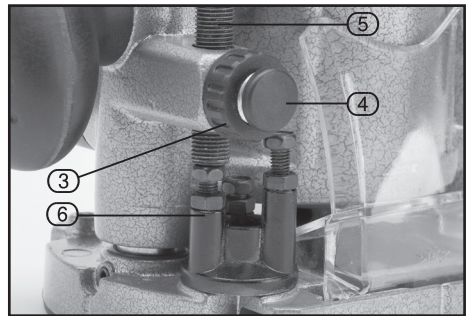

FIG.3
Turn the stopper pole setting nut (3) counterclockwise. Lower the depth stop (5) until it makes contact with the adjusting turret bolt (6). Align the depth pointer with the "0" graduation. The depth of cut is indicated on the scale by the depth pointer (Fig.3).